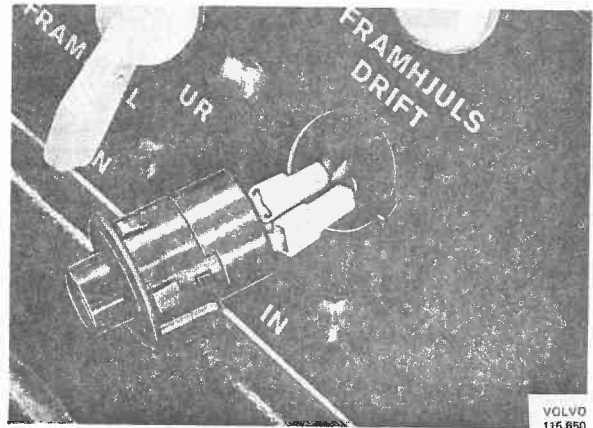

Fig. 36-26. Push-type switch
1. Lever forwards the panel holding the push-type switch, see Fig. 36-26.